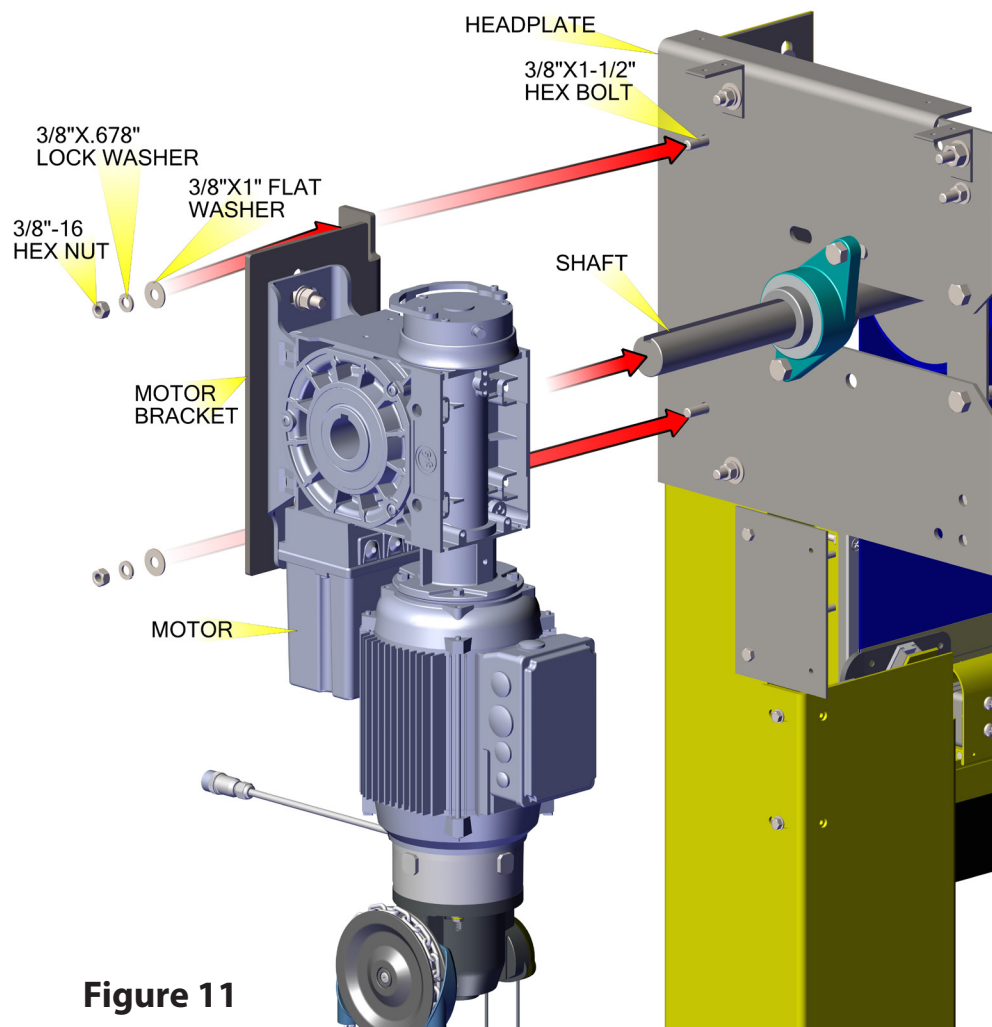

Figure 11
- Remove pre-installed nuts and washers from headplates, as shown in **Figure 11**. ONLY remove the nuts and washers from the two bolts, as shown in **Figure 11**.
- Slide motor onto shaft, as shown in **Figure 11**.